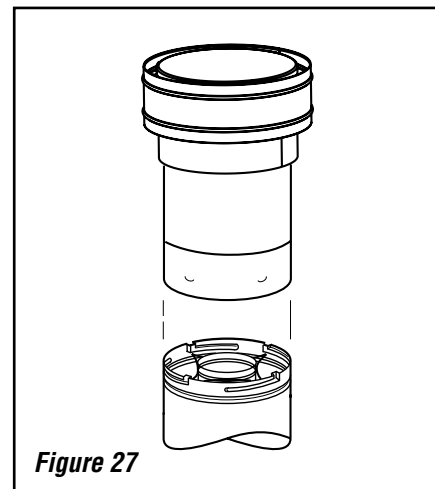

Figure 27
K. Install the vertical termination - The final Step involves installation of the SV4.5CGV-1 Vertical Termination. Extend the vent sections to the height as shown in the "Vertical vent termination section" (**Page 6, Figures 3A and 3B**). The SV4.5CGV-1 Vertical Termination (**Figure 27**) can be installed in the exact same fashion as any other **Secure Vent** section. Align the termination over the end of the previously installed section, adjusting the radial alignment until the four locking dimples of the termination are aligned with the inlets of the four incline channels of the last vent section. Push the termination down until it fully engages, then twist the termination clockwise running the dimples down and along the incline channels until they are seated at the end of the channels.